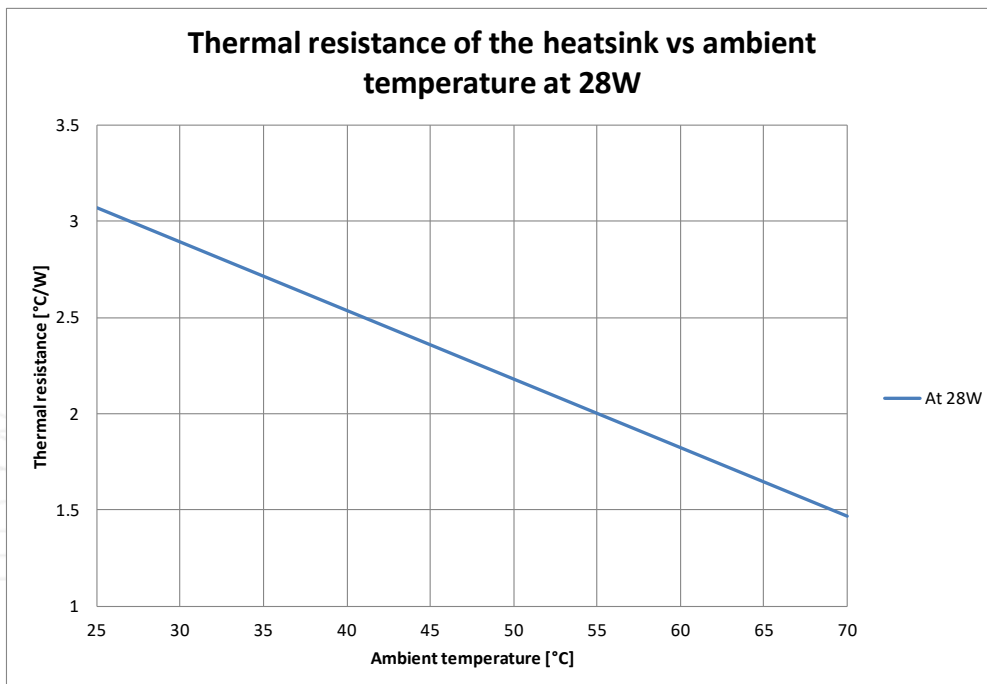

Figure XIII-3: Maximum thermal resistance depending on the ambient temperature, at 28W.
- At 28W, depending on the ambient temperature, on the Figure XIII-3.